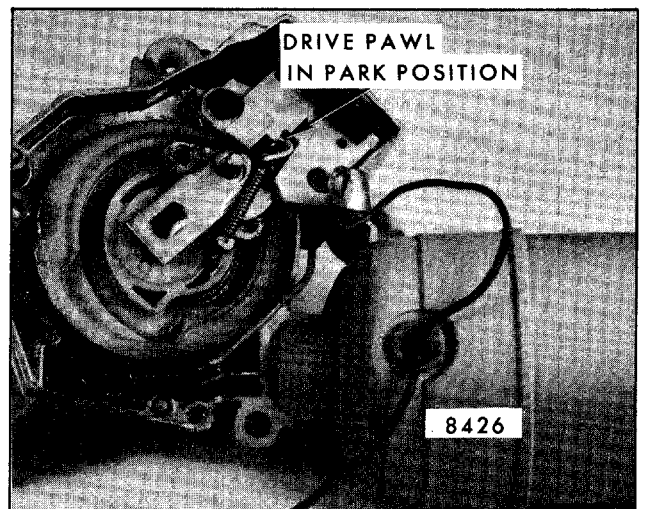

Fig. 2-82-Drive Pawl in Park
1. It causes the gear assembly drive pawl to push the relay latch arm into the relay housing (Fig. 2-82), which in turn opens the relay switch contacts. This opens the B plus circuit to the pulse relay coil. The pulse relay contacts then open which shuts off the B plus feed to the motor.